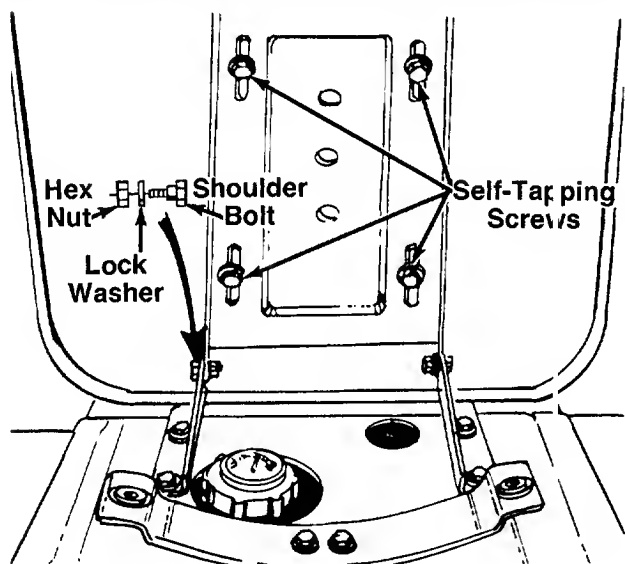

FIGURE 3B.—Models 723, 728, 733, 738, 743, 748, 753 and 758
- Models 723, 728, 733, 738, 743, 748, 753 and 758: Place the seat in position against the seat brackets. Secure each side of seat with shoulder bolts, lock washer and hex nut. Crown side of washers should be against the head of the bolt and the nut. See figure 3B.